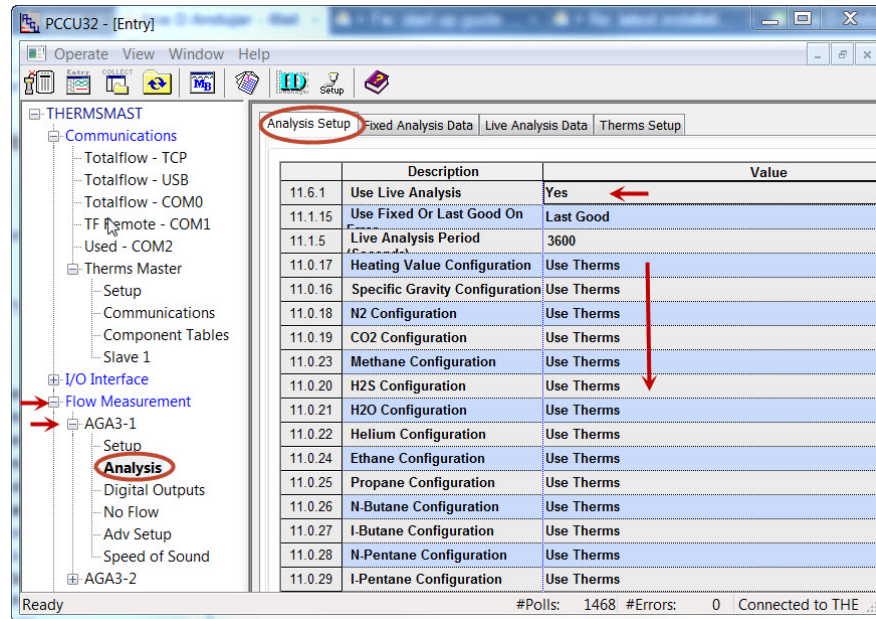

Figure 29. Configure measurement application to use live analysis data
- 1) Go to *Flow measurement* > (AGAn-n) > *Analysis* > *Analysis Setup* tab (see Figure 29).